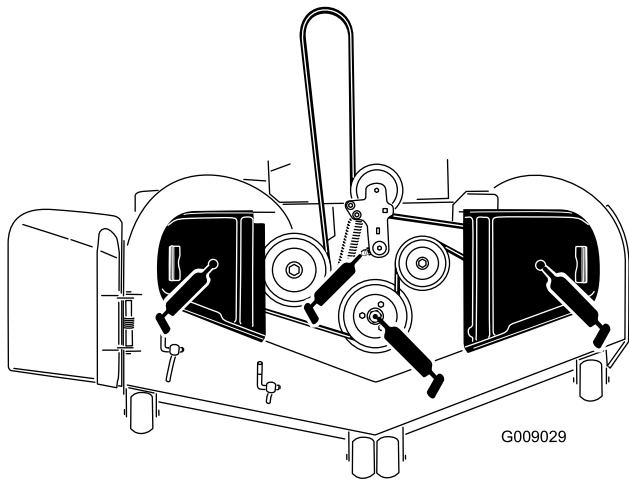

Figure 40
3. Grease the mower deck idler pulley pivot until grease come out the bottom (Figure 40).
4. Grease the 3 spindle bearings until grease comes out the lower seals (Figure 40).
- Grease the drive belt idler arm (Figure 40).